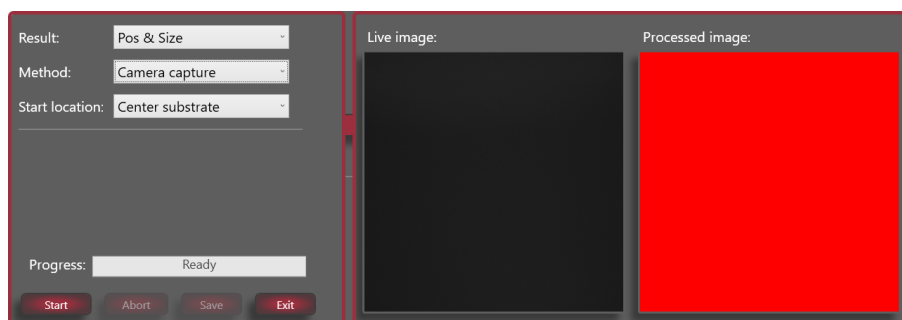

Figure 3-23 Scan substrate window after selecting the camera
9. When the alignment camera was selected, the window enlarges, see **Figure 3-23 below**.